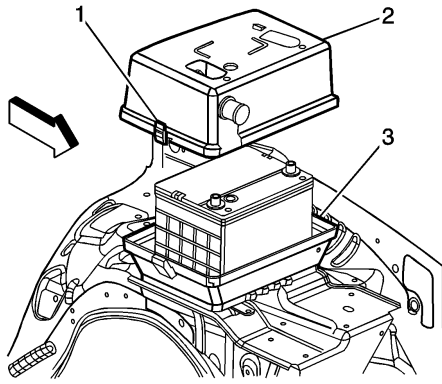

Fig. 2 Battery box removal
8. Disconnect battery vent duct from upper battery box (2), Fig. 2.
9. Press locking tabs (1) inward to remove upper battery box (2) from lower battery box (3), Fig. 2.
4. Install upper battery box (2) over battery, and engage locking tabs (1) into lower battery box (3), Fig. 2.
5. Connect battery vent duct to upper battery box (2), Fig. 2.